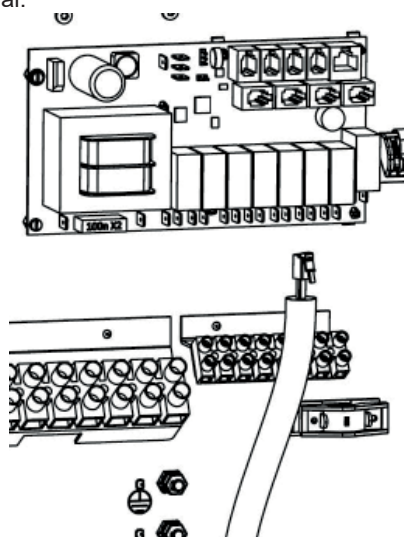

Fig. 14
**ALLA LÅGSTRÖMSKABLAR SKALL OMGES AV MEDFÖLJANDE KABELSTRUMPA ENLIGT FIG. 14**